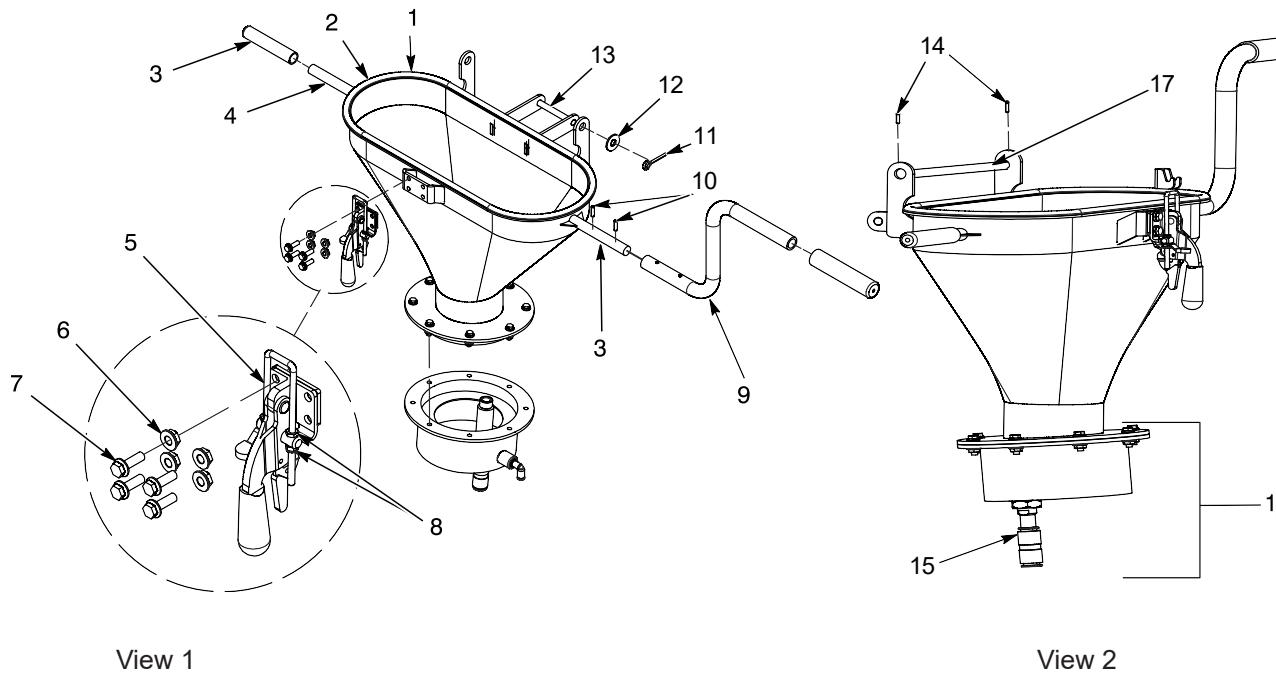

Figure 4-2 Cyclone Transfer Pan
See Figure 4-2.
1. The handle (9) will go on either the left or right side of the new transfer pan (1) depending upon the direction of the ColorMax® system.
2. Use a rubber mallet to tap the handle (9) onto the appropriate handle shaft (3) on the transfer pan. Rotate the handle to appear as shown in Figure 4-2.
3. Using a punch, tap two coil pins (10) through the handle (9) into the holes in the handle shaft (4) to secure the handle.
4. Use a rubber mallet to tap rubber grips (3) onto the handle and the unused handle shaft.
5. Install the axle shaft (17), set screws (14), flat washer (12), and cotter pin (11) to attach the new transfer pan to the lower shell.
6. Mount the latch assembly (5) onto the new transfer pan using the latch nuts (6) and latch bolts (7).
7. The set screws (14) are used to raise and lower the hinge rod (13) and must be adjusted during the assembly of the cyclone. Adjust the axle shaft set screws (14) so that each mating surface between the new transfer pan (1) and the lower cyclone extension are parallel and have even contacting surfaces.
**NOTE:** Ensure the transfer pan gasket (2) is properly seated between the mating surfaces.
8. Once the axle shaft (17) has been adjusted, the axle shaft set screws (14) are used to lock the hinge rod (13) in place.
9. Use the latch adjustment nuts (8) on the clamp adjust for final positioning on the transfer pan.
10. Reinstall fluidizing pan assembly (16) using the original hardware, ensuring that the bulkhead union (15) is toward the back of the transfer pan (1) and aligned with the back of the completed pan assembly.